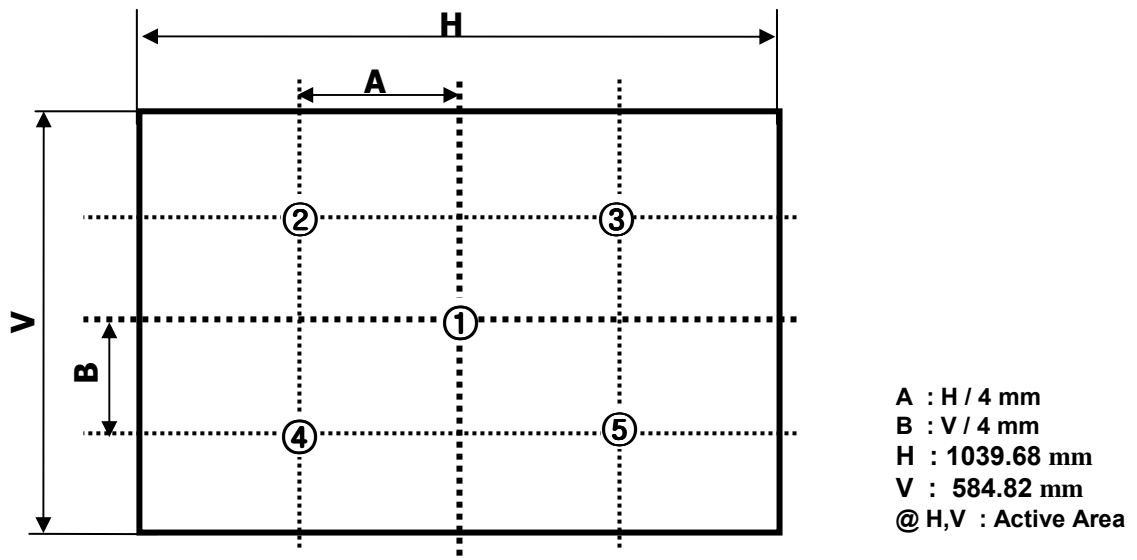

FIG. 2 5 Points for Luminance Measure
Measure Position : 5-point. See FIG. 2 for more information
2. Surface Luminance(L_{WH}) is the luminance value measured at an approximate 50cm distance from the center 1-point of LCD surface as all pixels displaying white. See FIG. 2 for more information.
For more information, see the FIG. 2.